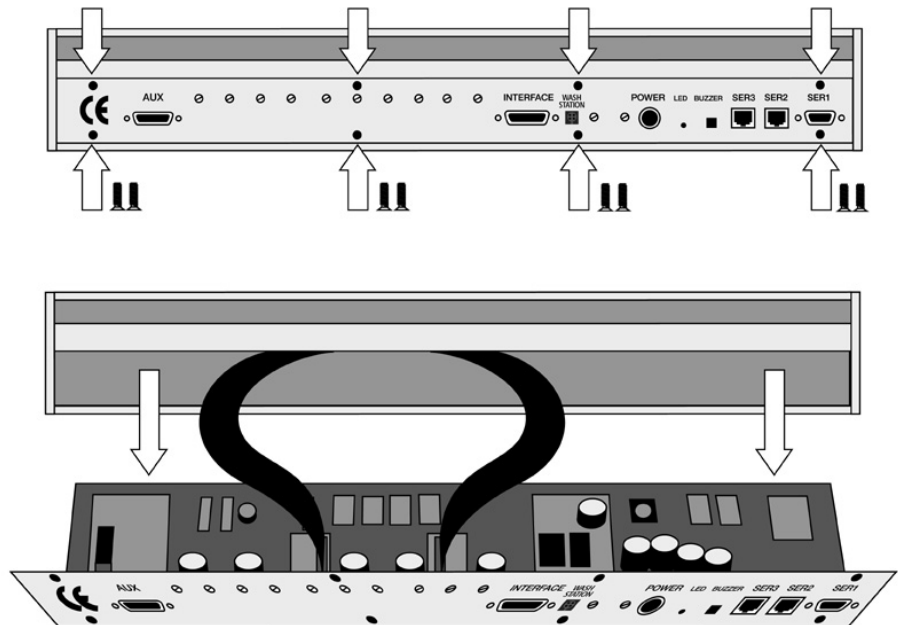

Figure 31 Replacing Control Board
- 1 Follow the sequence shown in Figure 31 to detach and release the Control board from its position inside the X Crossrail.